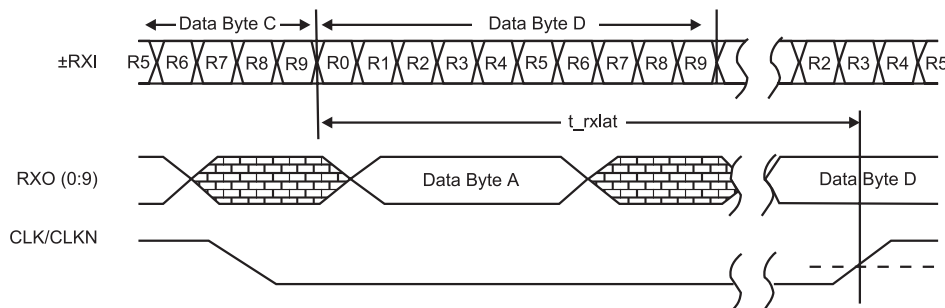

Figure 5: Receiver Latency
3. The receiver latency, as shown in Figure 5, is defined as the time between receiving the first serial bit of a parallel data word (as defined as the first edge of the first serial) and the clocking out of that parallel word (defined by the rising edge of the receive byte clock, CLK).